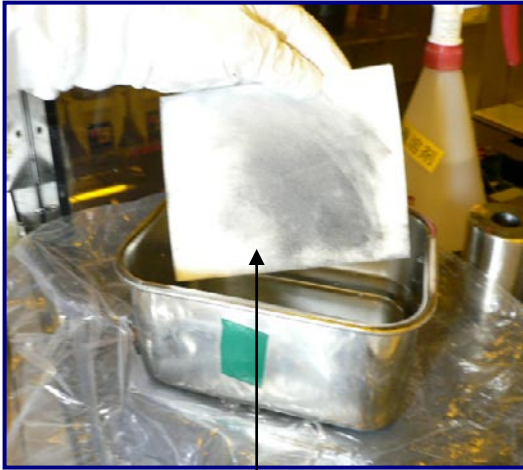

Fig 7: Loaded UltraSOLV[®] Sponge
Step 9: As UltraSOLV[®] Sponge becomes loaded with deposition, return to tub of DI water and rinse out as necessary (See Fig 7 & 8)